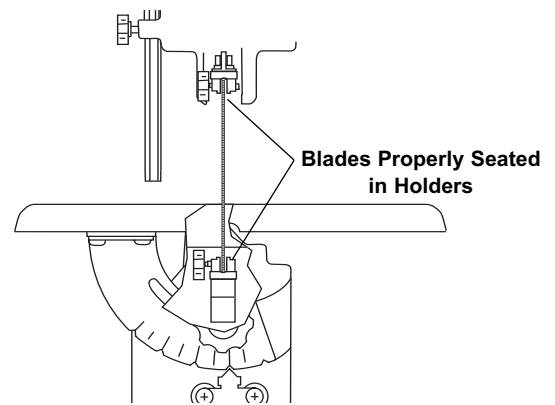

Figure 10. Installing Blades
3. Install the blade by inserting one end of the blade through the access hole in the table and centering the blade in the blade slot in the upper and lower blade holders (Figure 10).